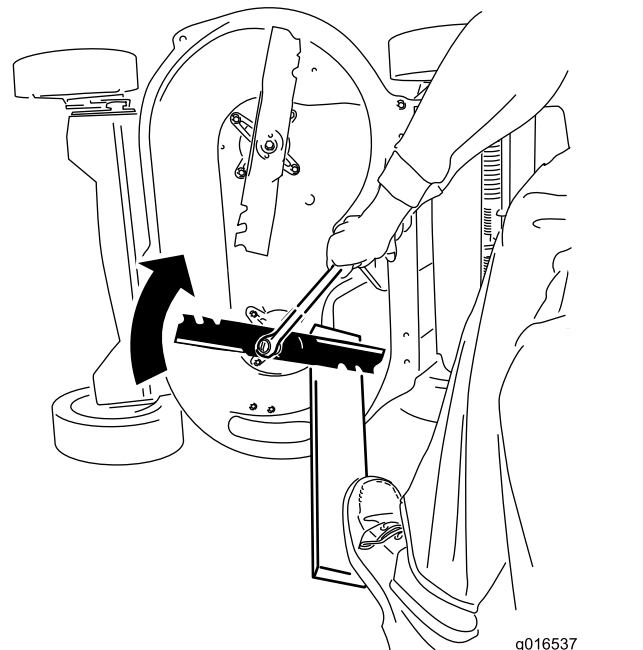

Figure 46
2. Steady each blade with a board and turn the blade bolt clockwise with a torque wrench as shown in Figure 46; torque the blade bolt to 82 N·m (60 ft·lb).